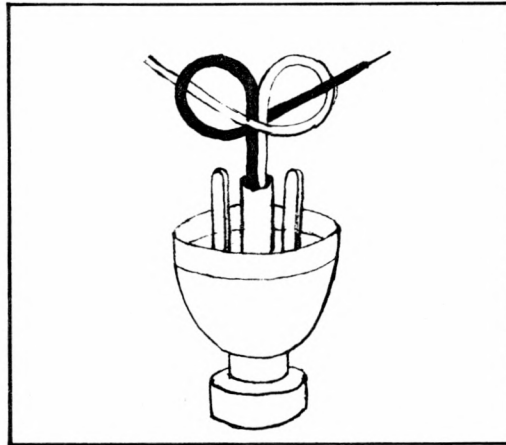

FIG. 5-7 UNDERWRITERS KNOT
- (1) Remove approximately 18 mm (3/4 in.) of insulation from each wire.
- (2) Use long-nosed pliers to wrap the end of the wire into a loop.
- (3) If the wire is stranded, twist the bare end in a clockwise direction.
- (4) Wrap the loop of wire around the terminal screw in a clockwise direction and tighten. Make sure no loose strands of wire project from the screw head.
- f. The Underwriters' Knot (see Figure 5-7) is used to prevent the wires from being jerked out of the plug if it is inadvertently kicked or pulled. It is best to pull about 75 mm (3 in.) of wire through the plug or fixture and then to trim off the excess.